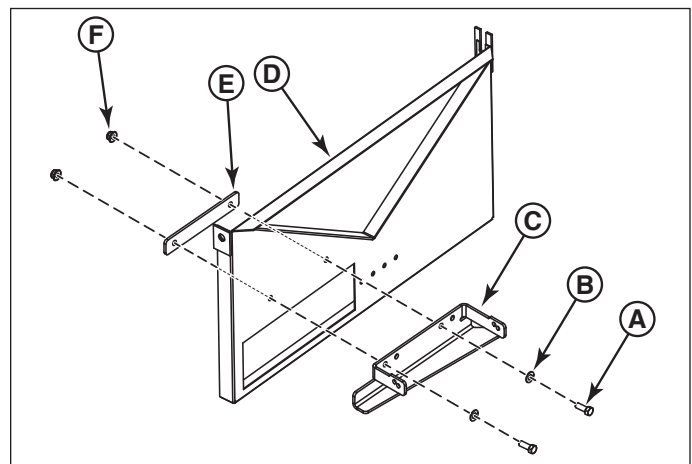

Figure 3. Securing the Mount Bracket to the Bagger Weldment
2. Reference **Figure 3**. Install two (2) 3/8" bolts (**A, Figure 3**) with 3/8" washers (**B**) through the mount bracket (**C**), bagger weldment (**D**) and the bracket support plate (**E**). Then secure the bolts with two (2) 3/8" nuts (**F**).